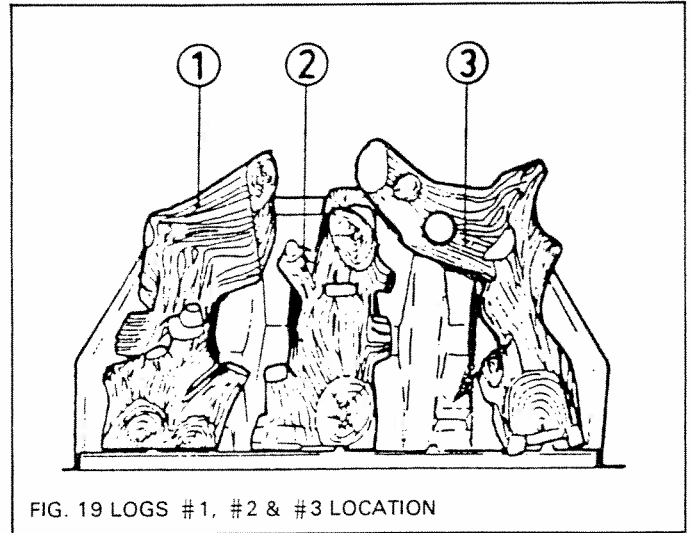

FIG. 19 LOGS #1, #2 & #3 LOCATION
Refer to figures 19, 20 & 21.
- (c) Place Log # 3 at the right side of the support bed. Locate the hole at the front edge onto tab "E" of the front support rail. Locate the underside of the log onto the recess "G" in the support bed. The Logs should now be as shown in fig. 19.